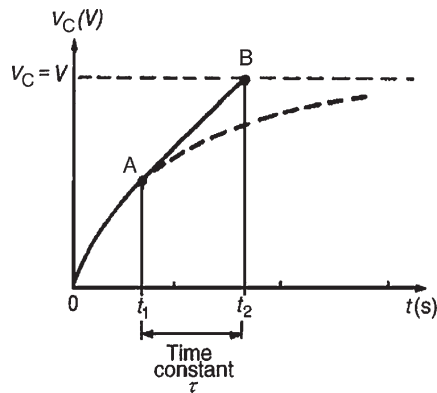

Figure 18.3
- (b) With reference to Fig. 18.3, let the constant voltage supply be replaced by a variable voltage supply at time  $t_1$  seconds. Let the voltage be varied so that the **current** flowing in the circuit is **constant**.